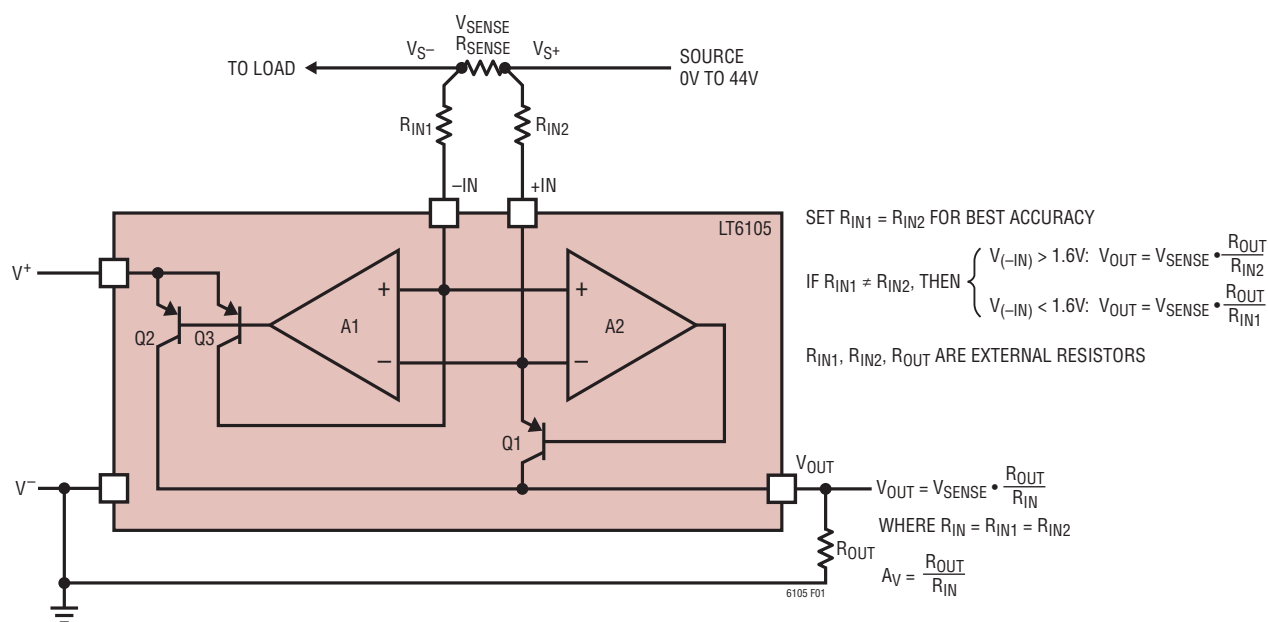

Figure 1. Simplified Block Diagram
**+IN (Pin 6/Pin 8):** Positive Sense Input Terminal. Connecting a source to  $V_{S^+}$  and a load to  $V_{S^-}$  will allow the LT6105 to monitor the current through  $R_{SENSE}$ , refer to Figure 1. Connect +IN to an external gain-setting resistor  $R_{IN2}$  to set the gain. +IN remains functional for voltages up to 44V, referred to  $V^-$ .
The LT6105 extended input range current sense amplifier (see Figure 1) provides accurate unidirectional monitoring of current through a user-selected sense resistor. The LT6105 is fully specified over a  $-0.3\text{V}$  to  $44\text{V}$  input common mode range. A high PSRR  $V^+$  supply (2.85V to 36V) powers the current sense amplifier. The input sense voltage is level shifted from the sensed power supply to the ground reference and amplified by a user-selected gain to the output. The output voltage is directly proportional to the current flowing through the sense resistor.
### THEORY OF OPERATION (Refer to Figure 1)
The crossover voltage, the voltage where the  $g_m$  of one input stage is transferred to the other, occurs at 1.6V above  $V^-$ . Near this region, one input stage is shutting off while the other is turning on. Increases in temperature will cause the crossover voltage to decrease. For input operation between 1.6V and 44V, the common base PNPs are active (Q2, Q3 of Figure 1). The typical current through each input at  $V_{SENSE} = 0V$  is 15 $\mu A$ . The input offset voltage is 300 $\mu V$  maximum at room temperature. For input operation between 1.6V to 0V, the other PNP is active. The current out of the inputs at  $V_{SENSE} = 0V$  is 100nA. The input offset voltage is untrimmed and is typically 300 $\mu V$ .
The LT6105 is designed to exhibit fast response to inputs for the purpose of circuit protection or signal transmission. This response time will be affected by the external circuit in two ways—delay and speed. If the output current is very low and an input transient occurs, there may be an increased delay before the output voltage begins changing. This can be improved by increasing the minimum output current, either by increasing  $R_{SENSE}$  or decreasing  $R_{IN}$ . The effect of increased output current is illustrated in the step response curves in the Typical Performance Characteristics section of this data sheet. Note that the curves are labeled with respect to the initial output currents. The speed is also affected by the external circuit. In this case, if the input changes very quickly, the internal amplifier will slew the base of the internal output PNP (Figure 1) in order to maintain the internal loop. This results in current flowing through  $R_{IN}$  and the internal PNP. This current slew rate will be determined by the amplifier and PNP characteristics as well as the input resistor,  $R_{IN}$ . See the Slew Rate vs  $R_{IN}$  curve in the Typical Performance Characteristics section. Using a smaller  $R_{IN}$  will allow the output current to increase more quickly, decreasing the response time at the output. This will also have the effect of increasing the maximum output current.